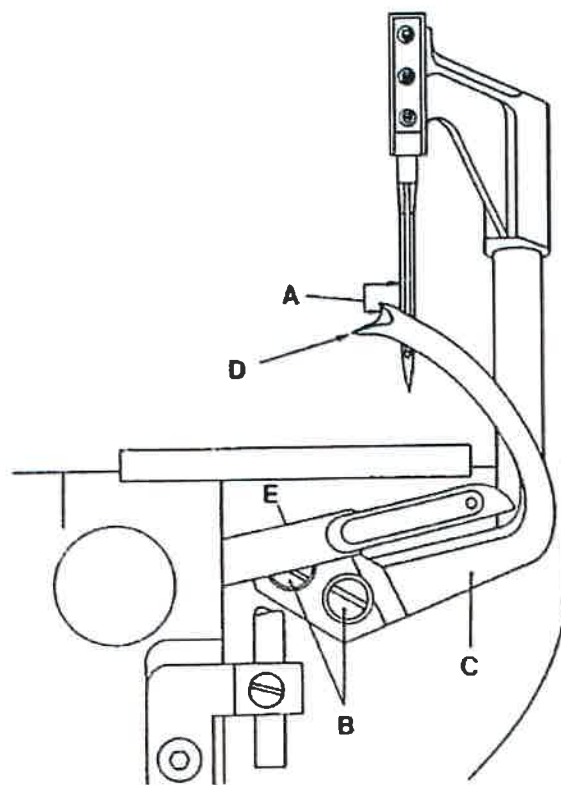

Fig. 7
Bring upper looper (C, Fig. 7) to its highest position. At this time, distance (A) between upper looper and needle is 4.5mm. This distance might be increased or decreased by 1mm for using different type of thread.
Loosen screws (B, Fig. 7) to adjust upper looper (C) right or left by 1mm. Bring upper looper toward needle and pass lower looper (E). At this time, upper looper's tip (D) is moved toward lower looper's groove. Be sure that upper looper does not touch lower looper.